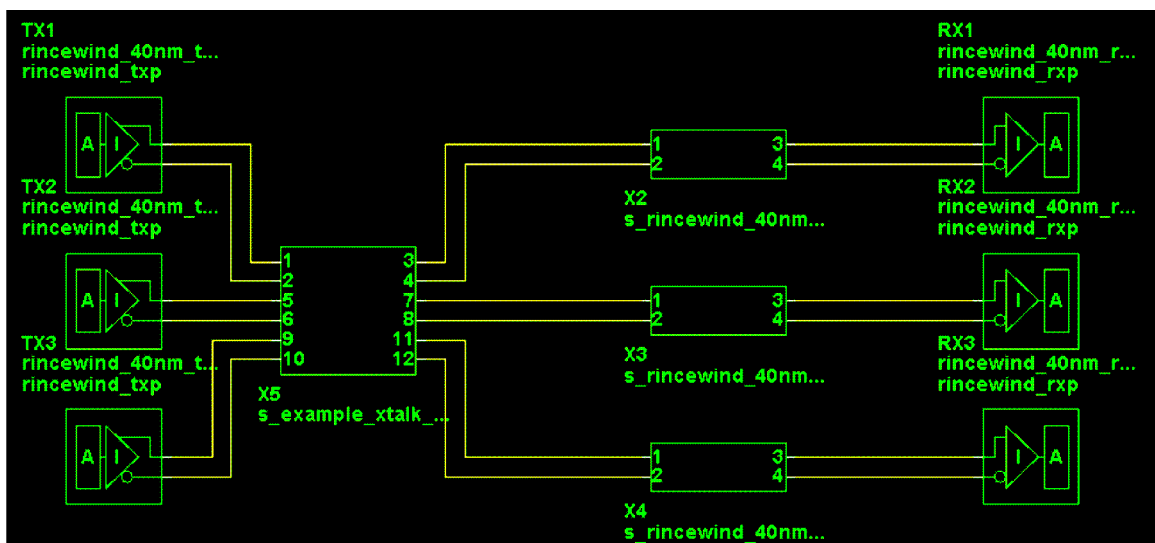

Figure 12. SiSoft QCD – Thru Simulation Schematic
3. Create a new crosstalk schematic as shown in Figure 12. This schematic shows a crosstalk simulation setup with 1 victim and two aggressors in the link setup.